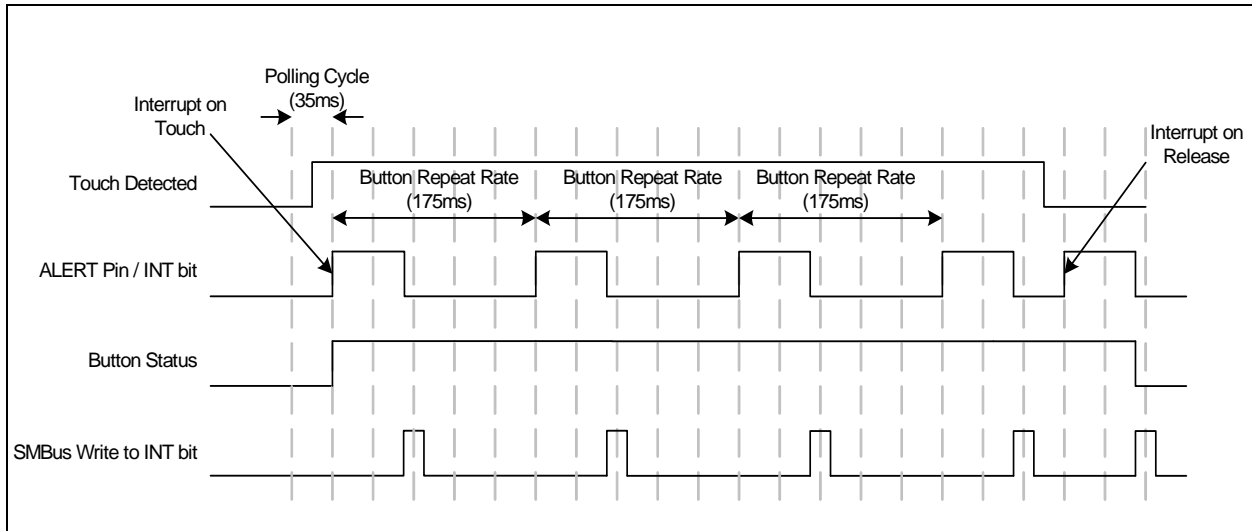

Figure 4.2 Sensor Interrupt Behavior - Repeat Rate Enabled
- If the repeat rate is enabled (see Section 5.6), then, so long as the touch is held, another interrupt will be generated based on the programmed repeat rate (see Figure 4.2).